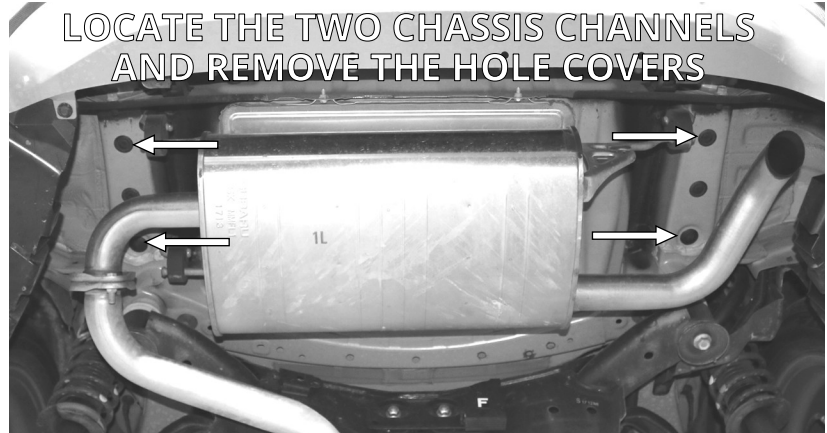

FIGURE A1: VIEW UNDER THE REAR OF THE VEHICLE
1. Under the rear of the vehicle, locate the two chassis channels on either side of the vehicle, above the muffler. Use a pick tool to remove the four indicated hole covers from the chassis channels, see Figure A1.